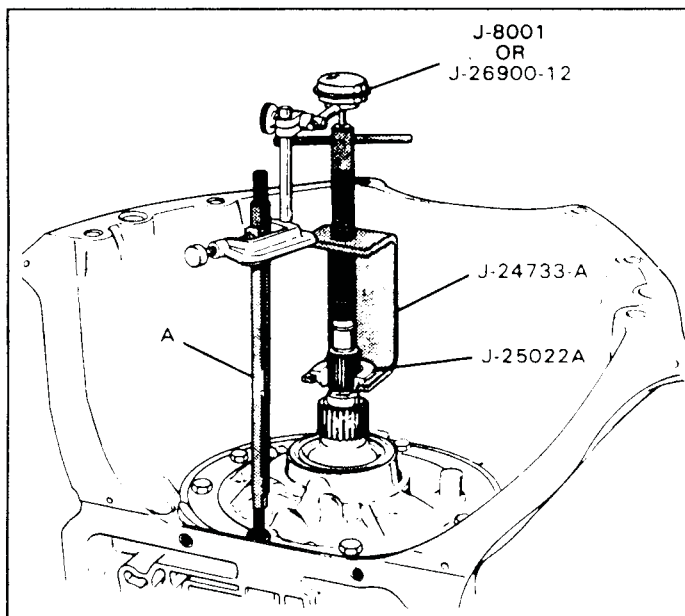

Figure 107
1. Install dial indicator and the turbine shaft lifting tool on transmission, as shown in Figure 107.
4. Pull the turbine shaft upward with the lifting tool (See Figure 107), and read front end play.